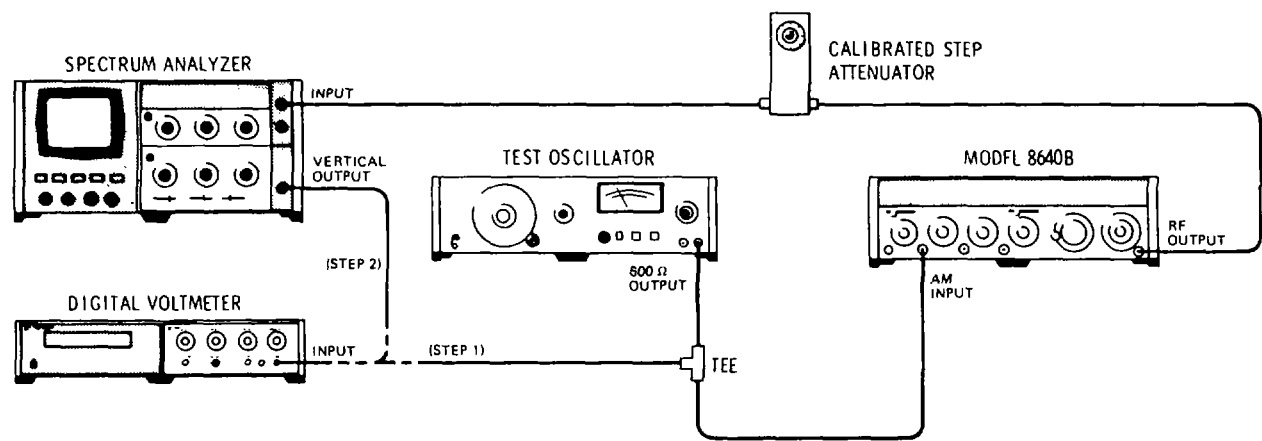

Figure 4-20. AM Sensitivity and Accuracy Test Setup.
- 1. Connect equipment as shown in Figure 4-20 after setting Signal Generator's controls as follows: